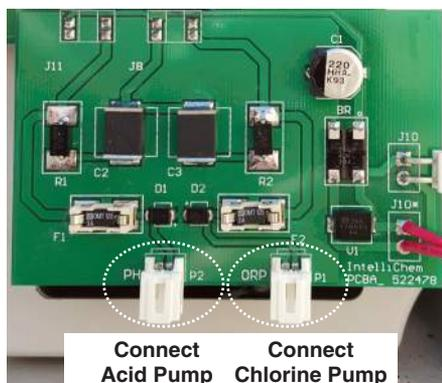

Figure 2. pH and ORP Connection
2. Plug the power cord for the Acid pump into the left connector labeled “PH” on the 522478 daughter board. See Figure 2.
3. (Optionally) plug the power cord for the Chlorine pump into the right connector labeled “ORP” on the 522478 daughter board. See Figure 2.